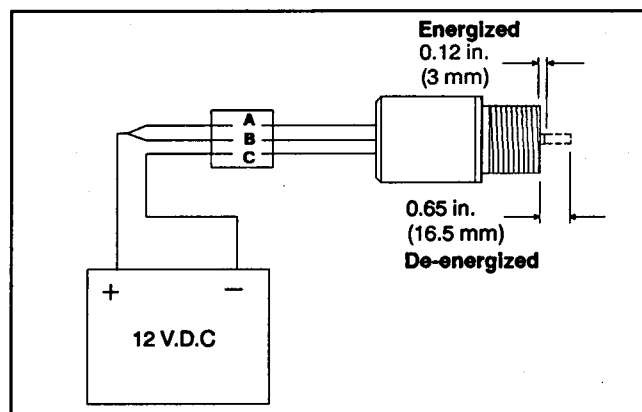

Figure 20
2. Connect a 12 volt battery so the positive (+) battery terminal is connected to terminals A (hold) and B (pull) (Fig. 20). Connect the negative (-) battery terminal to solenoid terminal C (common). The plunger should retract to the dimension shown.